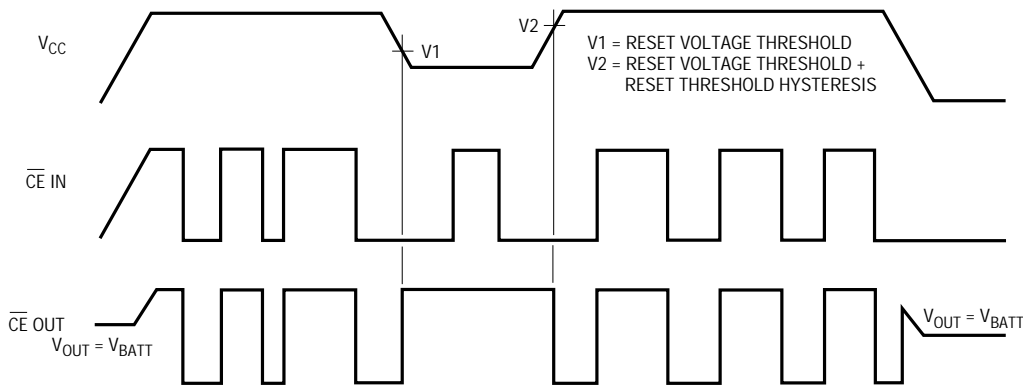

Figure 5. Timing Diagram for CE IN and CE OUT
**CE IN**: Logic Input to the Chip Enable Gating Circuit. CE IN can be derived from microprocessor's address line and/or decoder output. See Applications Information section and Figure 5 for additional information.
**CE OUT**: Logic Output on the Chip Enable Gating Circuit. When VCC is above the reset voltage threshold, CE OUT is a buffered replica of CE IN. When VCC is below the reset voltage threshold CE OUT is forced high (see Figure 5).
The LTC695-3.3 includes memory protection circuitry which ensures the integrity of the data in memory by preventing write operations when VCC is at invalid level. Two additional pins, CE IN and CE OUT, control the Chip Enable or Write inputs of CMOS RAM. When VCC is 3.3V, CE OUT follows CE IN with a typical propagation delay of 30ns. When VCC falls below the reset voltage threshold or VBATT, CE OUT is forced high, independent of CE IN. CE OUT is an alternative signal to drive the CE, CS, or Write input of battery backed up CMOS RAM. CE OUT can also be used to drive the Store or Write input of an EEPROM, EARM or NOVROM to achieve similar protection. Figure 5 shows the timing diagram of CE IN and CE OUT.